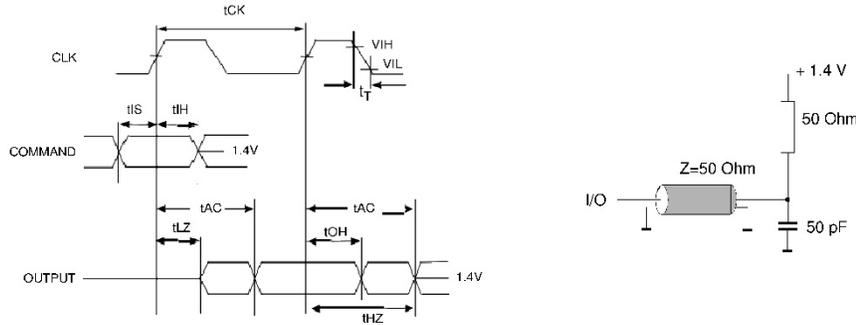

Figure 1.
2. AC timing tests have $V_{IL} = 0.4\text{ V}$ and $V_{IH} = 2.4\text{ V}$ with the timing referenced to the 1.4 V crossover point. The transition time is measured between V_{IH} and V_{IL} . All AC measurements assume $t_T = 1\text{ ns}$ with the AC output load circuit shown in Figure 1.